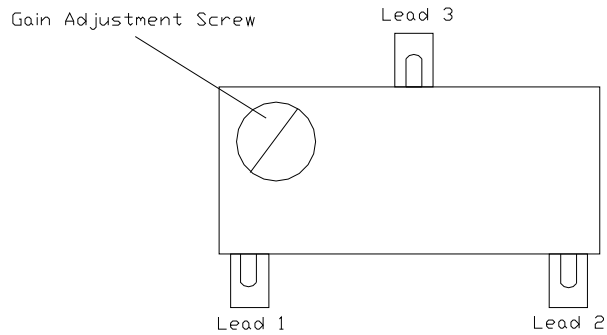
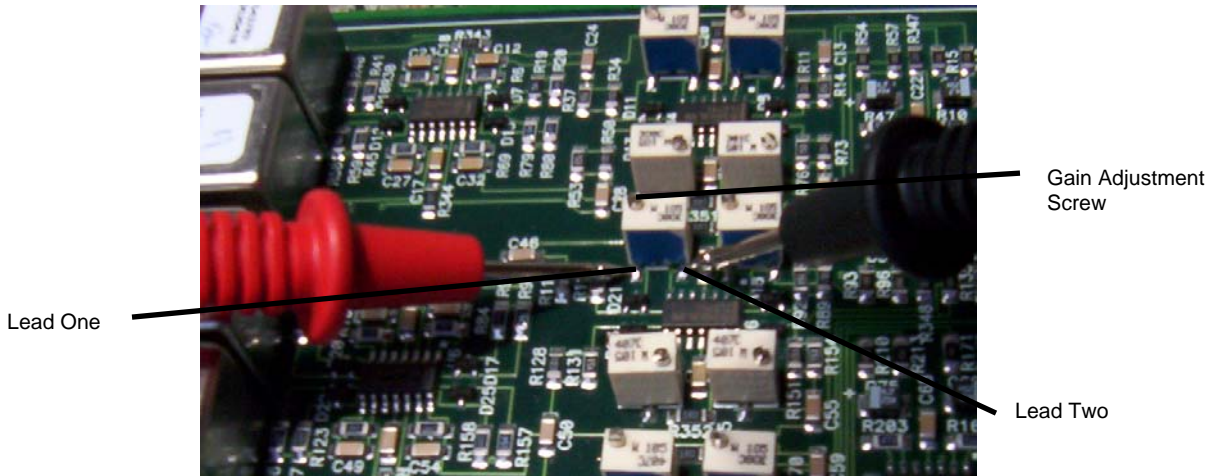

Figure 8-15 – Potentiometer Leads
Figure 8-16 - Potentiometer Lead Resistance Reading
3. Connect the multimeter probes to lead 1 and lead 2 of the potentiometer to be adjusted. Refer to Figure 8-15 – Potentiometer Leads and Figure 8-16 - Potentiometer Lead Resistance Reading